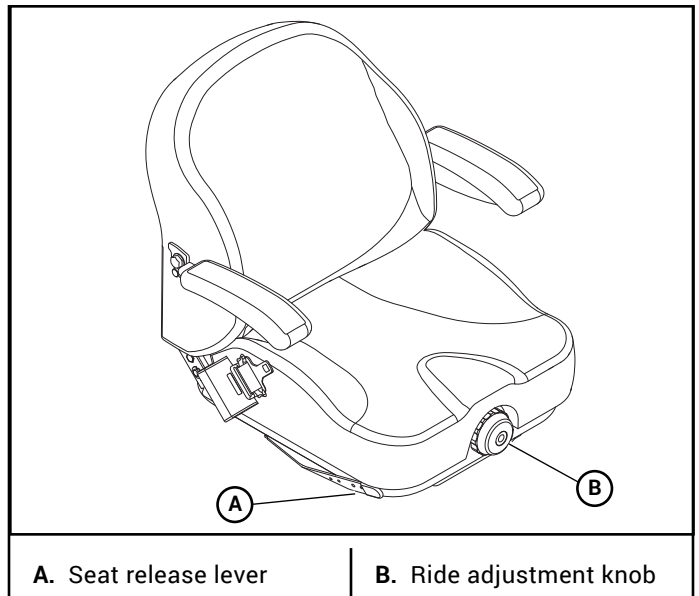

Figure 4-15
1. Use the seat release lever to slide the seat forward and rearward. Figure 4-15
2. Adjust the seat firmness by turning the ride adjustment knob. Figure 4-15